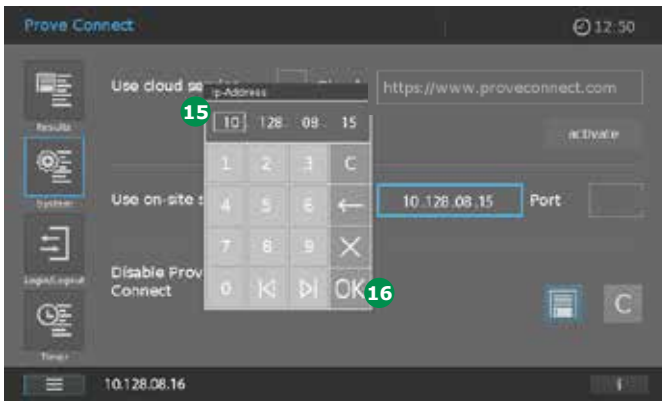

Figure 31 - Screen of Spectroquant® Prove / Prove plus (Figure 28) with entered IP address of the PC on which Prove Connect runs
8. On the Spectroquant® Prove / Prove plus, click in the field "IP address" (text box with the blue border) and the entry field appears **15** (Figure 31).
10. Confirm the entered IP address with "OK" **16** (Figure 31).